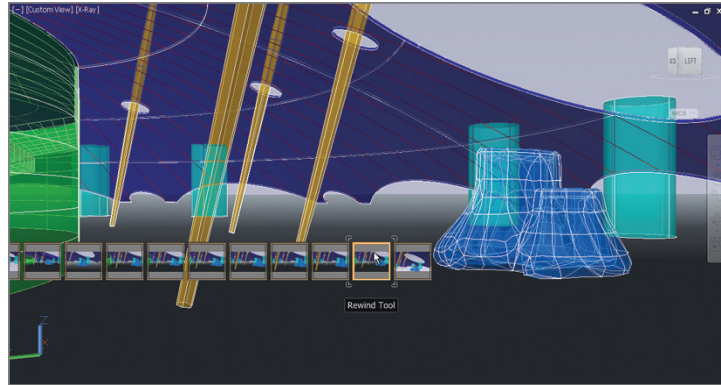

FIGURE 16.21 Interactively rewinding through navigation history
5. Position the cursor over the Rewind tool in the SteeringWheel's outer ring. Drag to the left to go backward in the history of movements made using the steering wheel. Drag back to the point before you looked up (see Figure 16.21). Press Esc to exit the SteeringWheel.